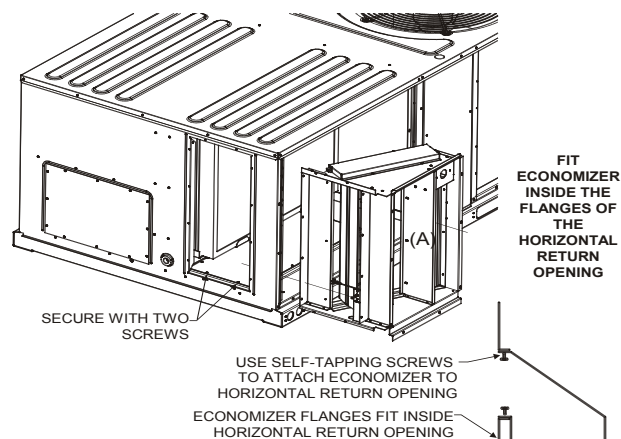

Figure 6
Slide the Economizer (A) over return opening and into horizontal duct opening as shown below. Secure Economizer at the top and bottom with self-tapping 10-16 x 1/2 screws provided with the economizer as shown in **Figure 6**.